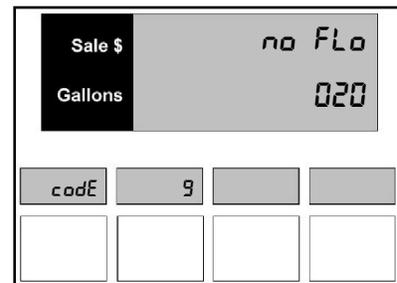

Figure 9.2 – No Flow Time Out
2. Use the **0** through **9** buttons on the keypad to enter a Flow Time Out value in seconds. For example, if a 20-second delay is entered, the volume display window looks like *Figure 9.2*.